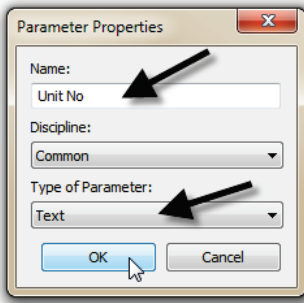

Figure 5—Create a Unit No parameter
1. Create a new Shared Parameter in your Shared Parameter file named “Unit No.” and make it a Text parameter (see Figure 5).